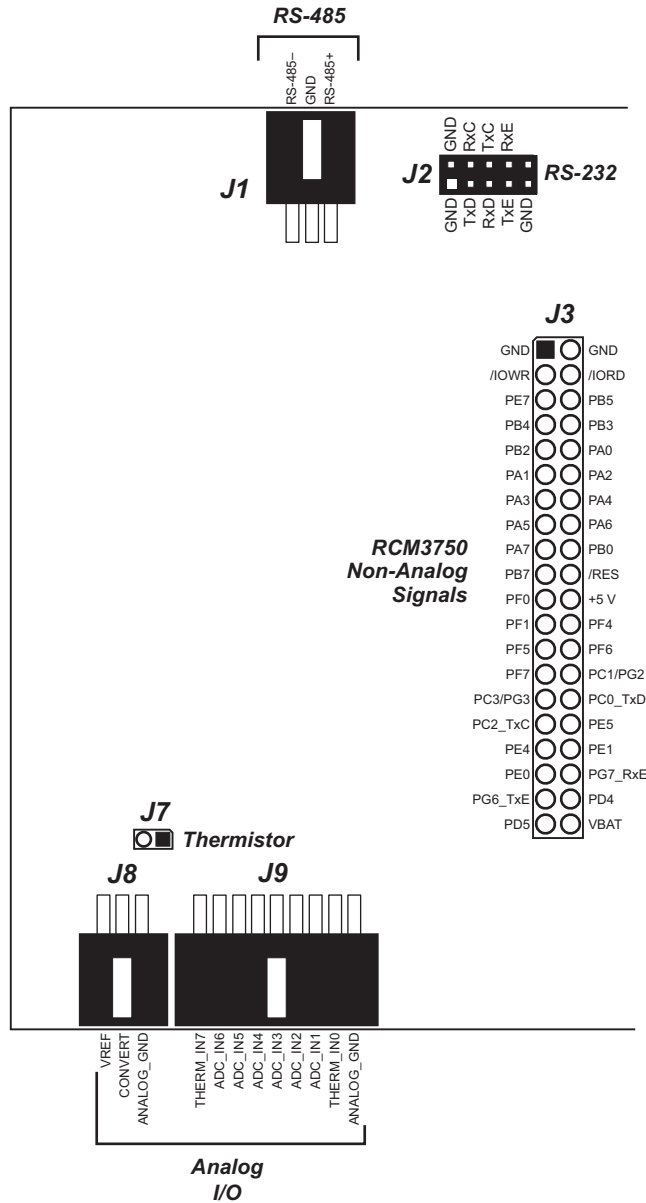

Figure B-4. RCM3700 Prototyping Board Pinout
- **Module Extension Headers**—The complete non-analog pin set of the RCM3750 module is duplicated at header J3. Developers can solder wires directly into the appropriate holes, or, for more flexible development, a 2 × 20 header strip with a 0.1" pitch can be soldered into place. See Figure B-4 for the header pinouts.
- **Analog I/O Shrouded Headers**—The complete analog pin set of the RCM3750 Prototyping Board is available on shrouded headers J8 and J9. See Figure B-4 for the header pinouts.
Figure B-4 shows the RCM3700 Prototyping Board pinouts.
Analog input THERM_IN7 on the Prototyping Board was designed specifically for use with a thermistor in conjunction with the **THERMISTOR.C** sample program, which demonstrates how to use analog input THERM_IN7 to calculate temperature for display to the Dynamic C **STUDIO** window. The sample program is targeted specifically for the thermistor included with the Development Kit with $R_0 @ 25^\circ\text{C} = 3 \text{ k}\Omega$ and $\beta 25/85 = 3965$. Be sure to use the applicable R_0 and β values for your thermistor if you use another thermistor. Install the thermistor at location J7, which is shown in Figure B-4.